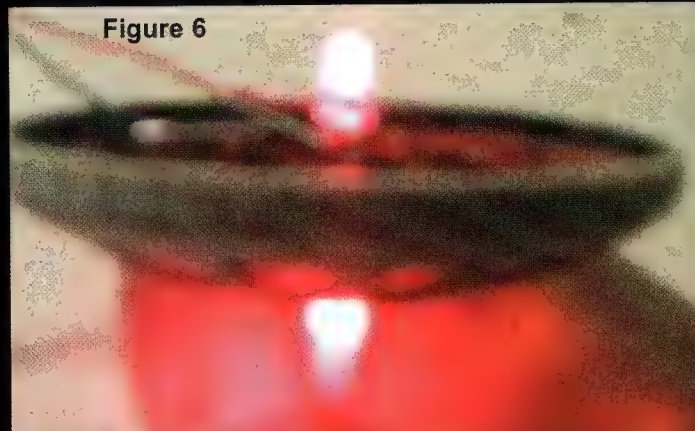

Figure 6
**Figure 6** shows how the red LEDs are used to light up the reactor core. One faces straight down into the radiator cone and the other is directly on top of it, facing the inner surface of the top half, which has been mirrored with Mylar foil from the kit. Insert a little cotton into the cone to diffuse the light. Assemble and mount the entire reactor assembly before closing the top of the center hull section.